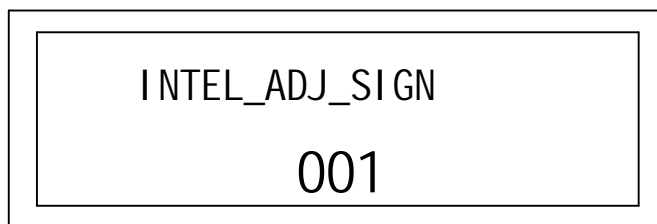

Fig. 20: Arc voltage intellectualized adjusting function available or not SETUP
15). INTEL_ADJ_SIGN: arc voltage intellectualized adjusting function available or not. Fig.20.